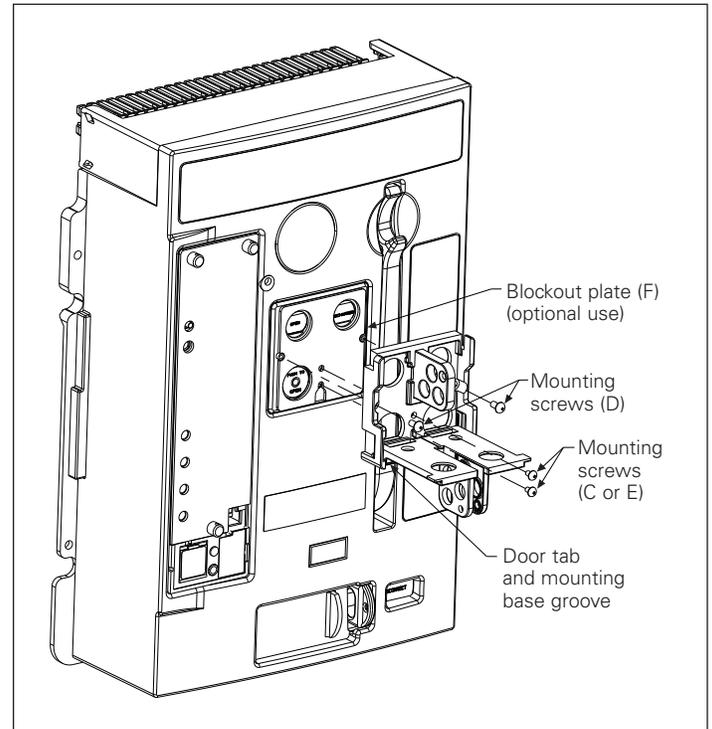

Figure 8. Step 7
Insert the two mounting screws (D) through the indicated holes in the pushbutton cover and into the mounting holes in the faceplate. Torque both mounting screws to 8 ozf-in (0.06 N·m). Refer to the **Figure 8** for reference purposes.